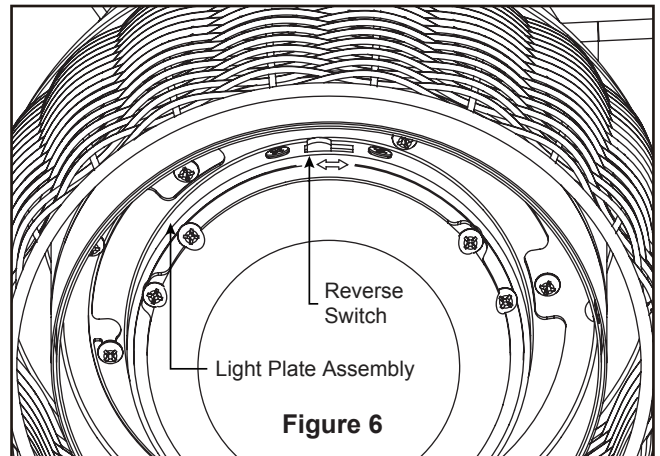

Figure 6
6. If airflow is desired in the opposite direction, turn the fan off and wait for the blades to stop turning. Remove the glass then slide the reverse switch on the light plate assembly to the opposite position. Assemble the glass to the housing assembly by twisting in a clockwise direction and turn fan on again. (Figure 6)